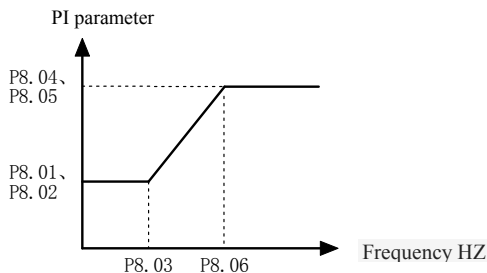

Fig. 5-8-1 PI parameters schematic diagram
- ◆ The P8.01 and P8.02 are PI adjustment parameters when the operation frequency is less than the switching frequency 1 (P8.03). P8.04 and P8.05 are PI adjustment parameters when the operation frequency is greater than the switching frequency 2 (P8.06). PI parameter between the switching frequency 1 and the switching frequency 2 is linear with switching of the two groups of PI parameters, as shown in Fig. 5-8-1.